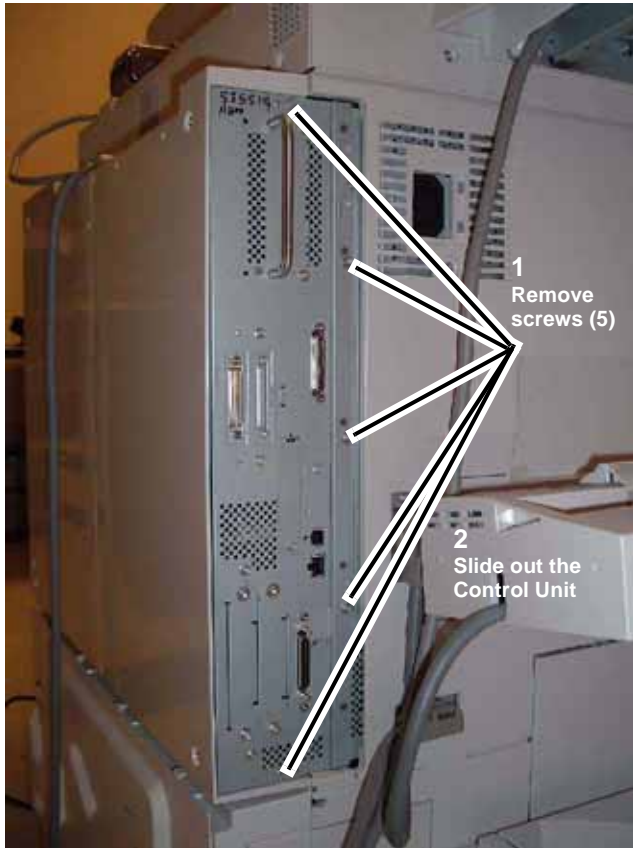

Figure 1 Removing the Control Unit
2. Remove the Control Unit (Figure 1).